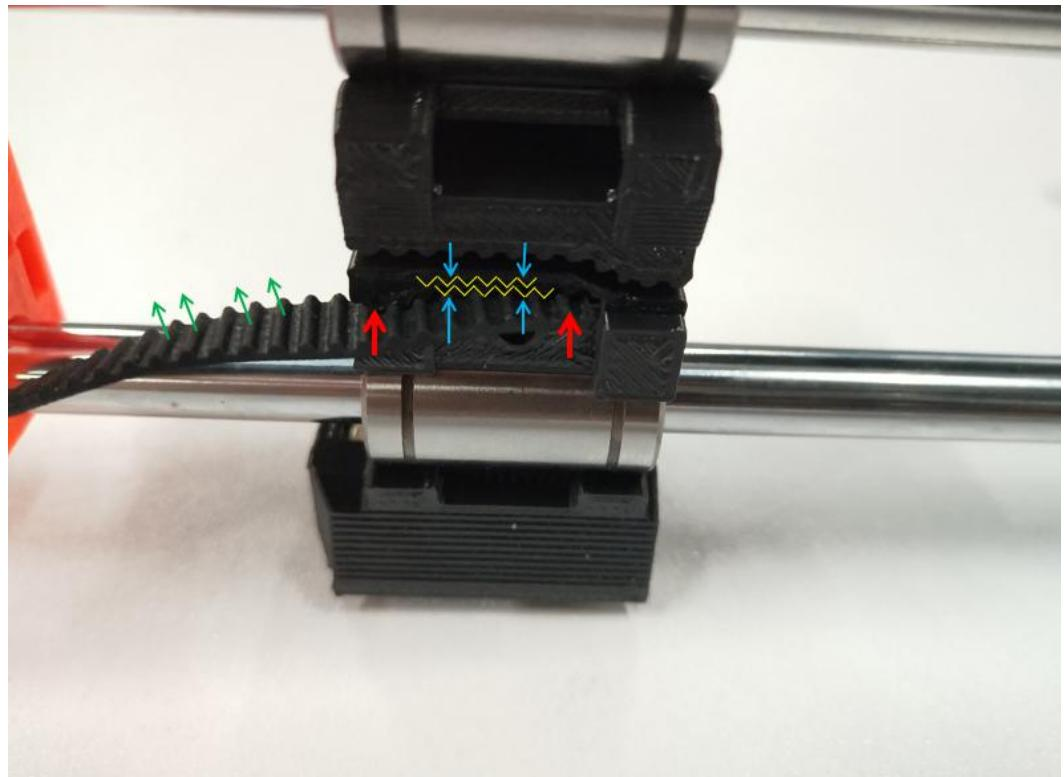

Figure 2.11.8
**Step 2-11-6:** As shown in Figure 2.11.8, install one end of the belt into the belt installation slot on the MINI-x-carriage as shown in Figure. (Note that the teeth of the belt are facing up)